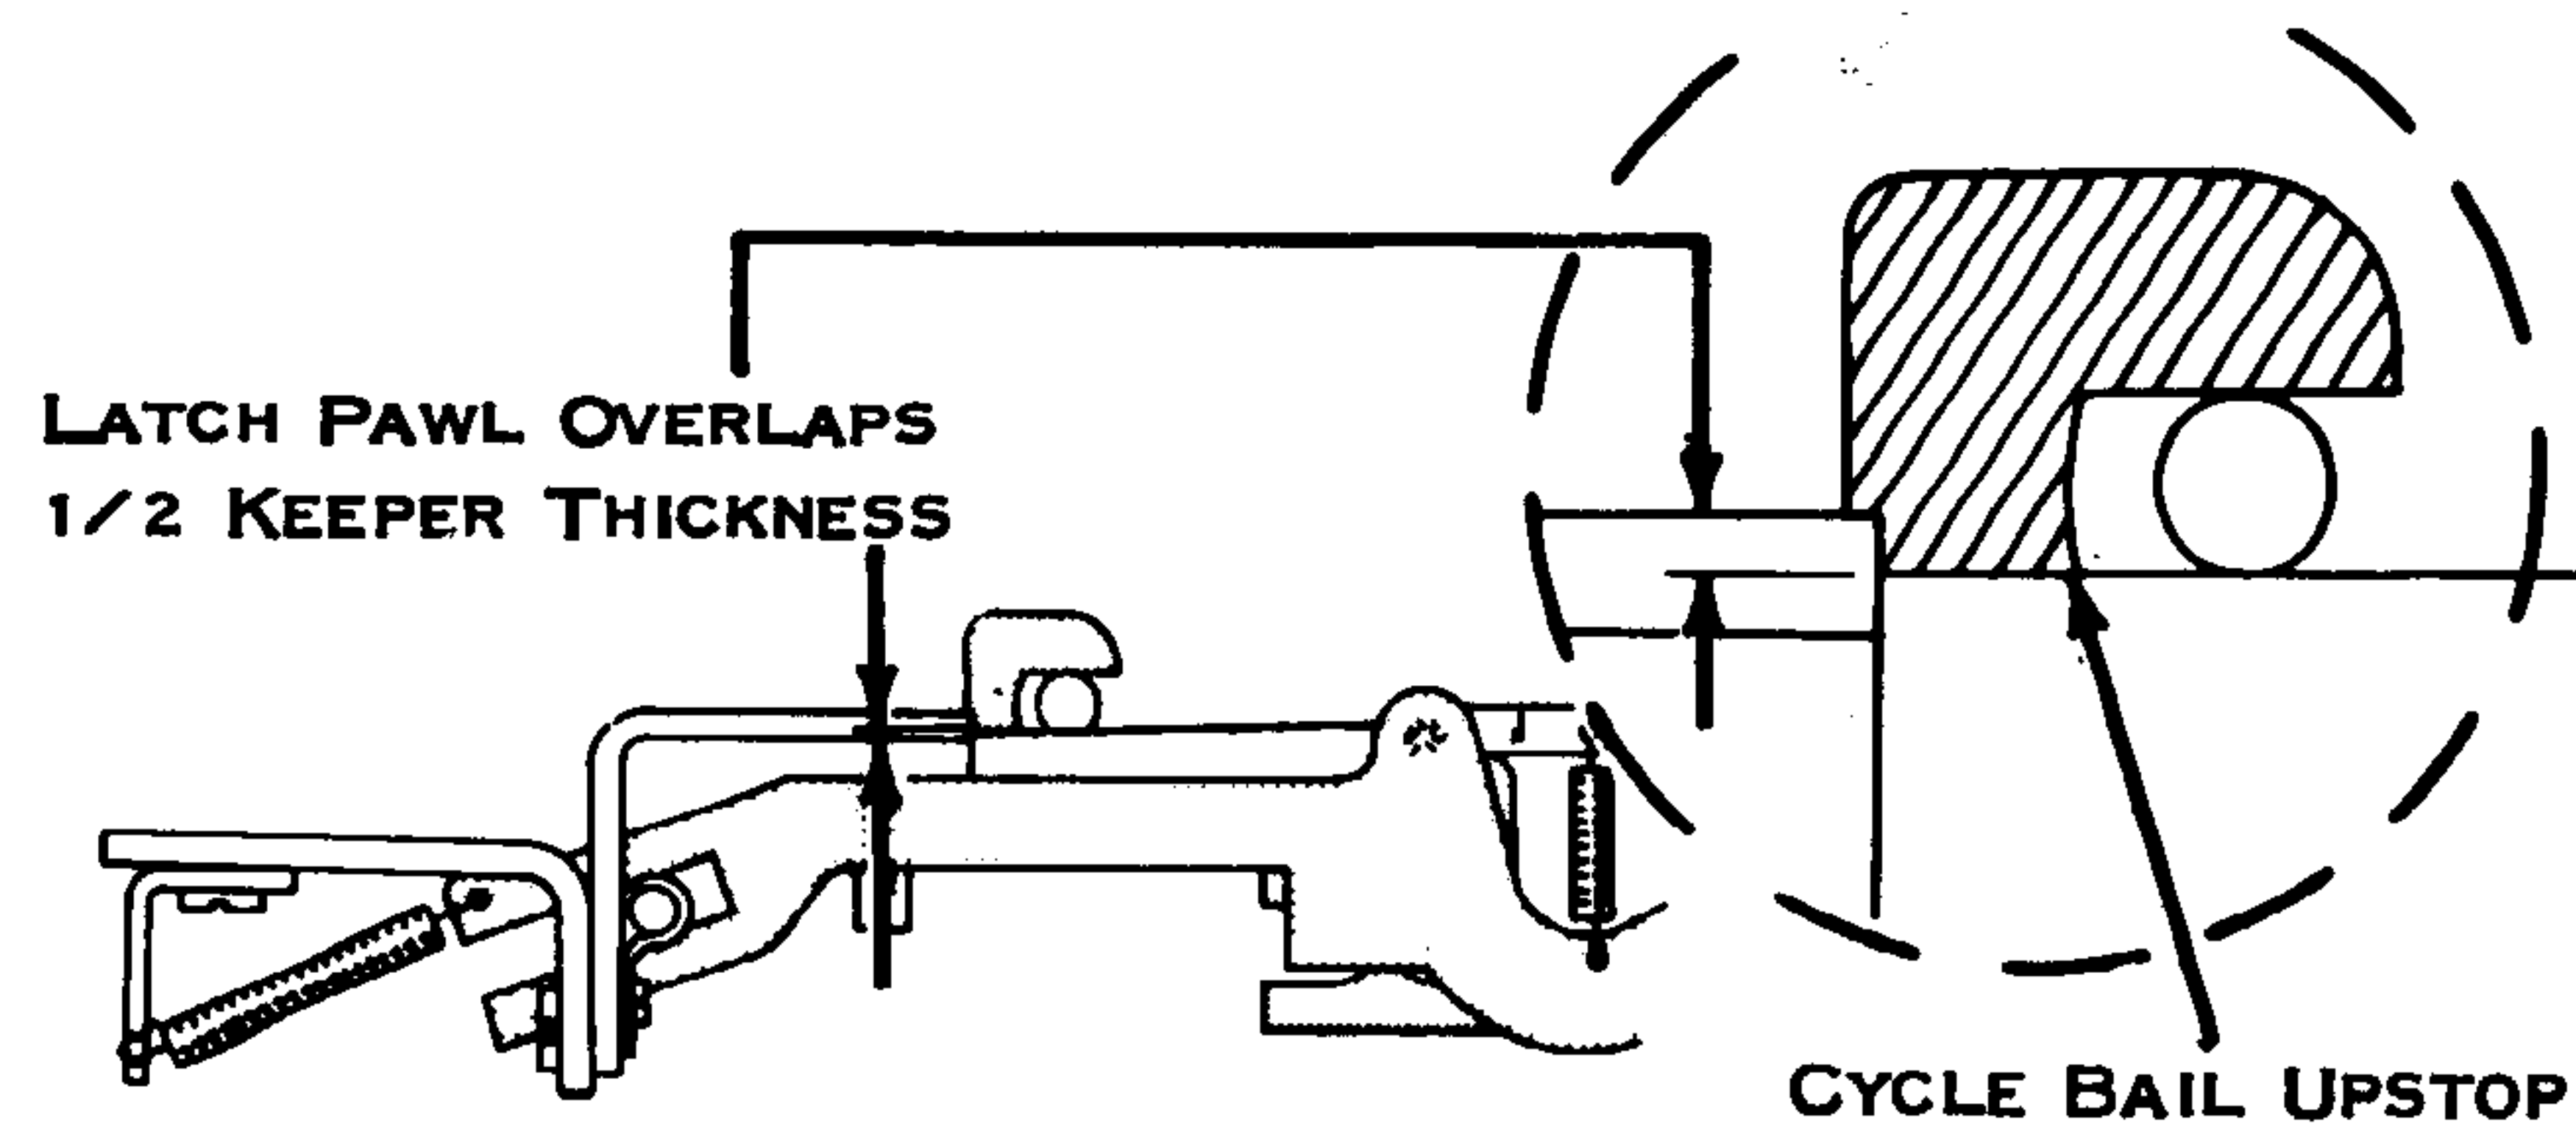

Figure 13. Cycle Bail Upstop Adjustment
9. Cycle Bail Upstop (Fig. 13) - Position so that the latch pawl overlaps the keeper by  $1/2$  the keeper thickness.